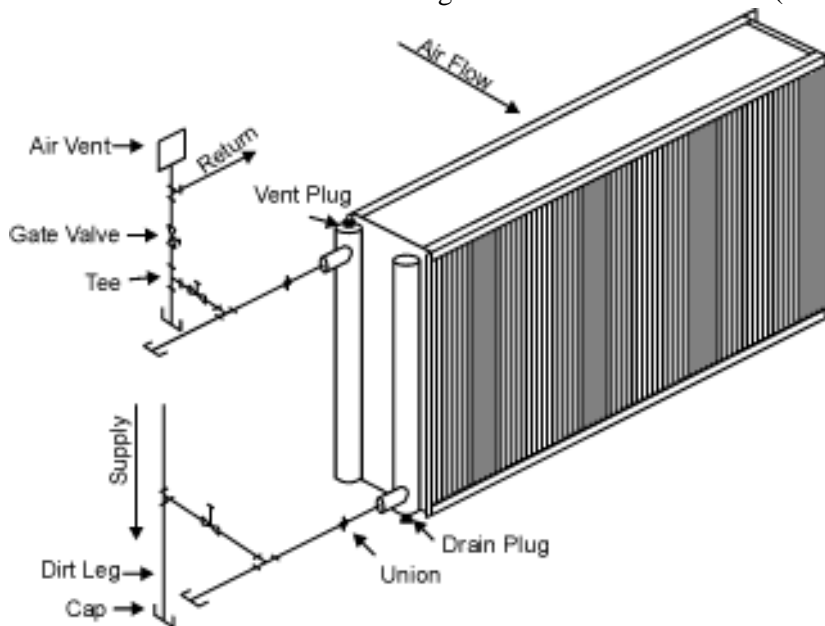
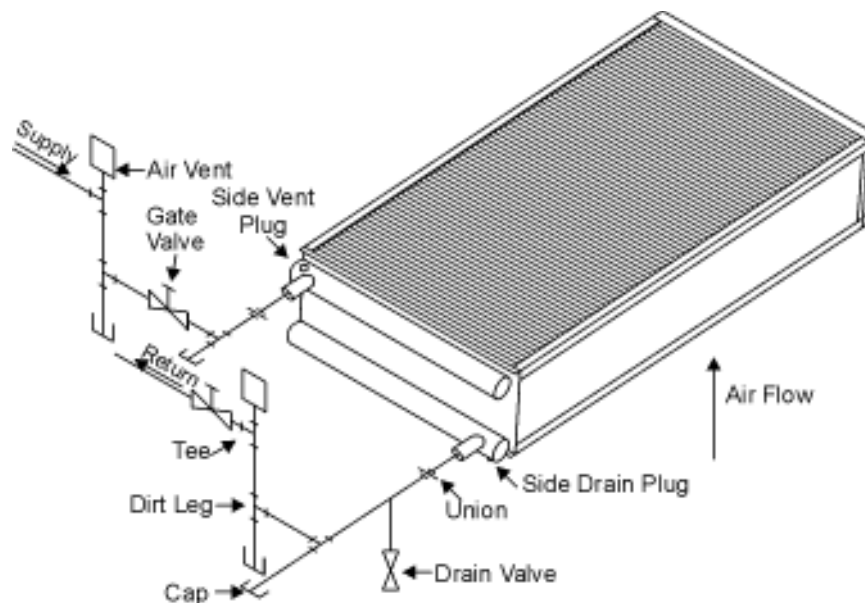

Figure 1 - Horizontal Airflow Diagram
Figure 3 - Vertical Airflow Diagram
10. General piping diagrams can be found in Figure 1 - Horizontal Airflow and Figure 3 - Vertical Airflow.